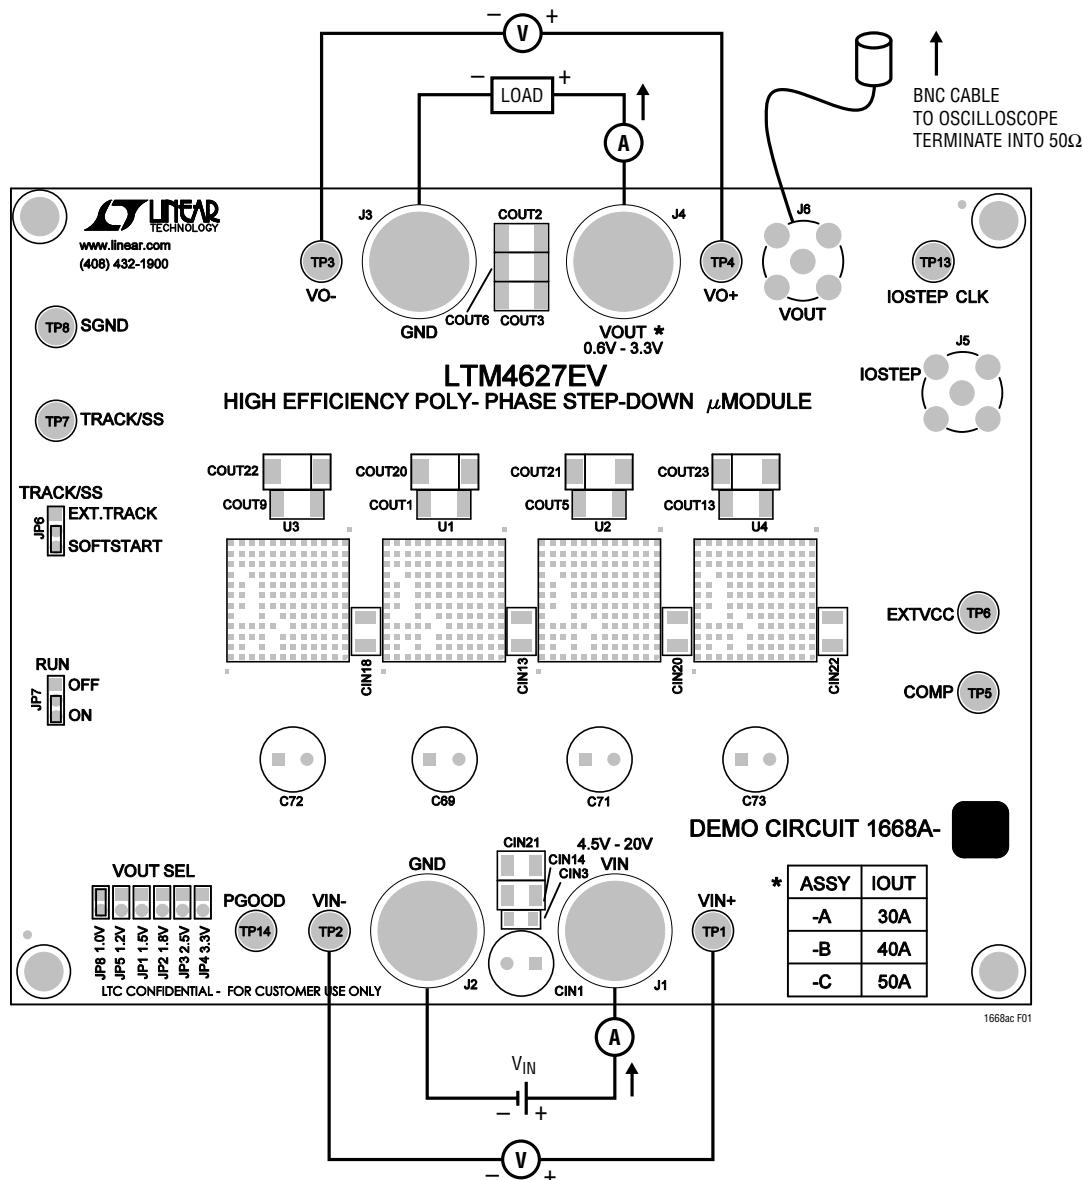

Figure 1. Test Setup of DC1668A-C
Demonstration circuit 1668A-C is easy to set up to evaluate the performance of paralleled LTM4627 modules. Please refer to Figure 1 for proper measurement equipment setup and follow the procedure below:
1. With power off, connect the input power supply, load, meters and  $V_{OUT}$  BNC cable as shown in Figure 1. Preset the load to 0A and  $V_{IN}$  supply to be 0V. Place jumpers in the following positions for a typical 1.8VOUT application: